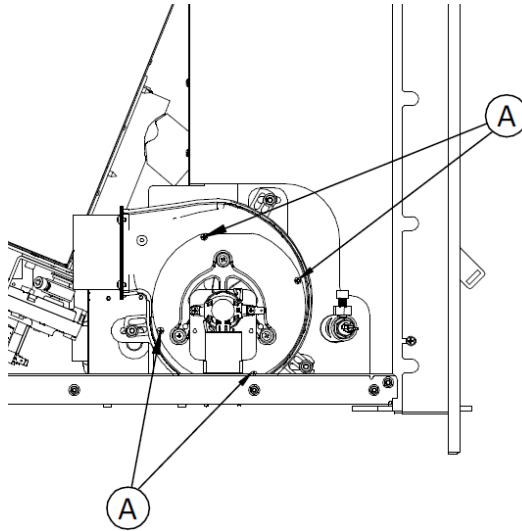

Figure 50 - Checking the PH2 screws
- To clean the extractor it is necessary to remove the cap with the motor, remove the screws (Figure 50) with a Phillips screwdriver PH2 (be careful not to injure the seal gasket - CO120602000003 VFC1-120 extractor gasket). You can use a brush and a vacuum cleaner to remove any dirt from the extractor walls and propellers.